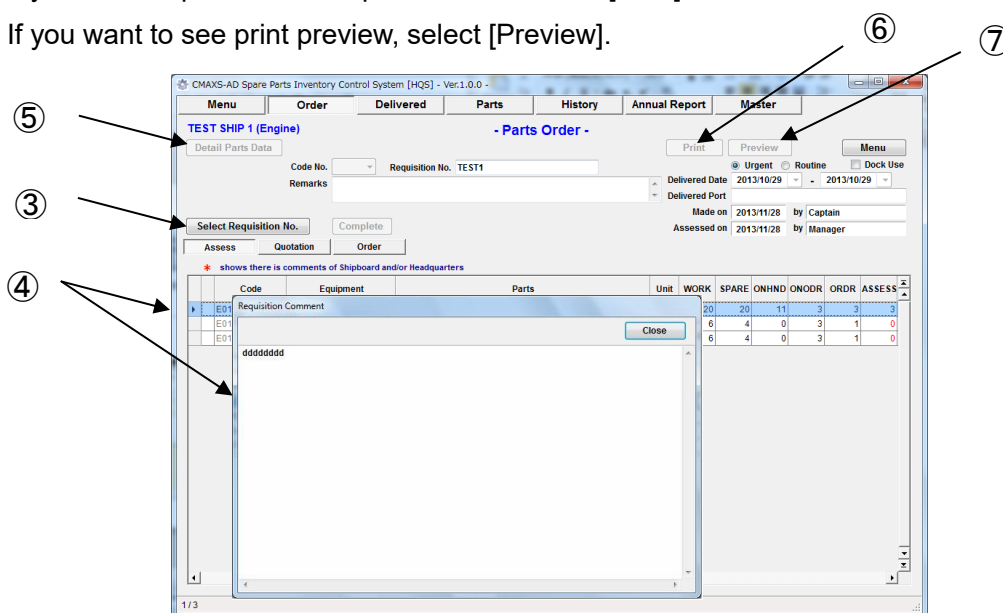

Fig.7-2 Order Screen
- (2) "Order Screen" (Fig.7-2) is displayed.
- (3) If you want to make Quotation Sheet from other import data, select [Requisition No.]
- (4) If there is a comment from shipboard,